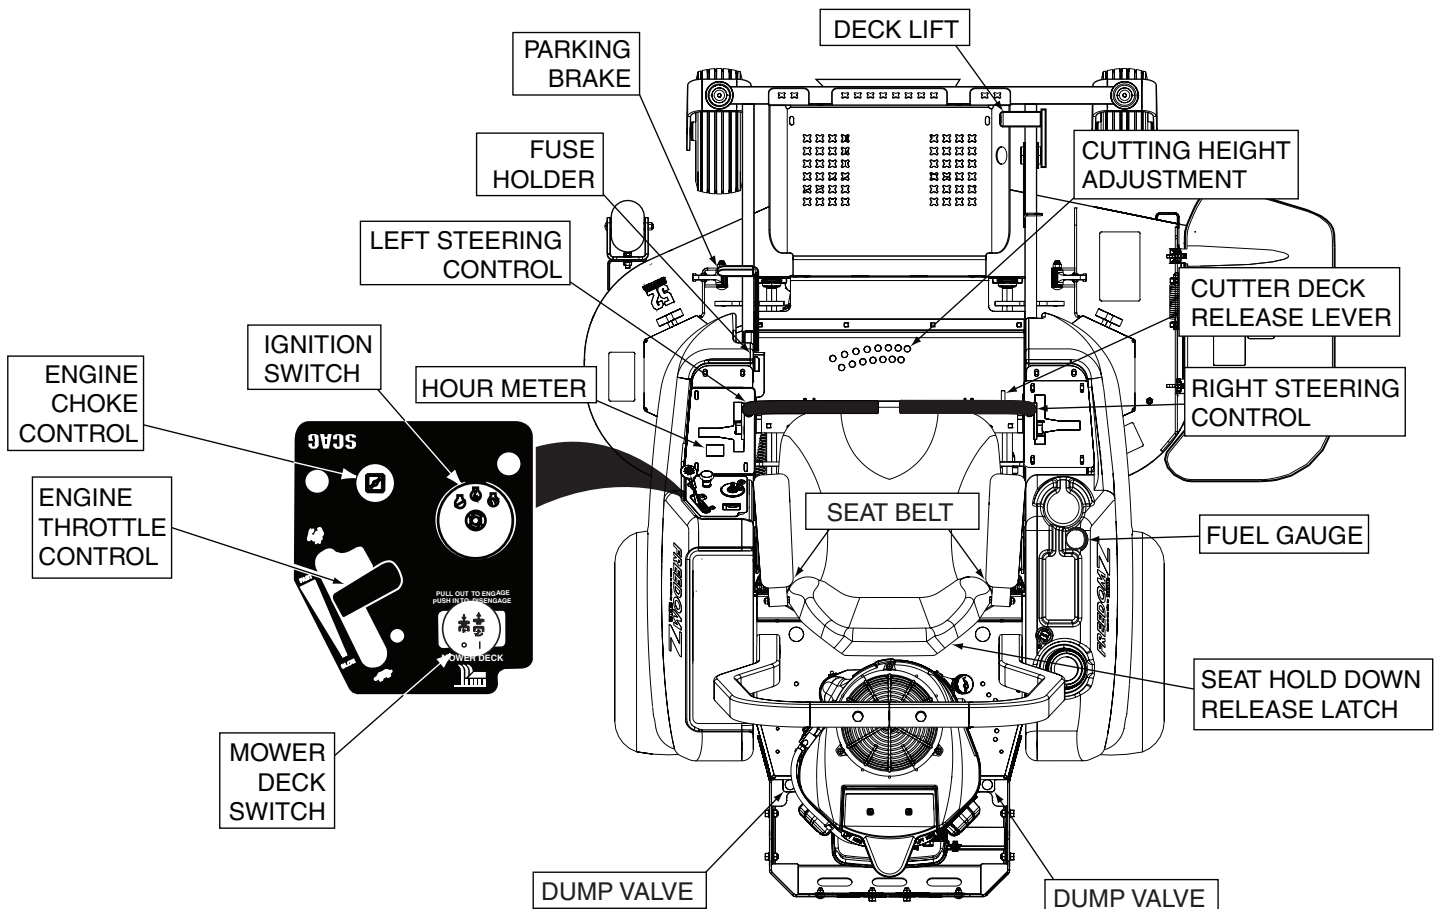

Figure 4-1. Controls and Instruments
- 1. Ignition Switch (Figure 4-1).** The ignition switch is used to start the engine and has three positions; OFF, ON, and START.
- 2. Mower Deck Switch (Figure 4-1).** Used to engage and disengage the mower drive system. Pulling up on the switch will engage the deck drive. Pushing down on the switch will disengage the deck drive.
- 3. Engine Choke Control (Figure 4-1).** Used to start a cold engine.
- 4. Engine Throttle Control (Figure 4-1).** Used to control the engine speed. Pushing the lever forward increases engine speed. Pulling the lever back decreases engine speed. Full back position is the IDLE position. Full forward is the cutting position.
5. **Hourmeter (Figure 4-1).** Indicates the number of hours the engine has been operated. It operates whenever the ignition key switch is in the ON position. Has preset maintenance reminders for engine and hydraulic system oil changes. Will start flashing scheduled maintenance 2 hours before preset time and continue flashing until 2 hours after. Automatically resets.
6. **Fuse Holders (Figure 4-1).** Two 20-amp fuses protect the mower's electrical system. To replace fuses, pull fuse out of the socket and install a new fuse.
7. **Left Steering Control (Figure 4-1).** Used to control the mower's left wheel when traveling forward or reverse.
8. **Right Steering Control (Figure 4-1).** Used to control the mower's right wheel when traveling forward or reverse.
9. **Parking Brake Control (Figure 4-1).** Used to engage and disengage the parking brakes. Pull the lever back to engage the parking brakes. Push the lever forward to disengage the parking brakes.
11. **Deck Lift Foot Lever (Figure 4-1).** Used to raise and lower the cutter deck.
12. **Cutting Height Adjustment (Figure 4-1).** Used to set the cutter deck at the desired cutting height.
13. **Deck Release Lever (Figure 4-1).** Used to lock the cutter deck in the transport position. Push the foot pedal forward and pull back on the release lever to release the cutter deck for normal mowing.
14. **Seat Belt (Figure 4-1).** Used to secure the operator. Seat belt must be worn at all times during operation.
15. **Seat Hold Down Release Latch (Figure 4-1).** Located behind the seat. Used to secure the seat in the operator's position. Release the latch to gain access under the seat.
Do not travel forward over a curb. The mower will hang up on the curb. Raise the deck and travel backwards over the curb at a 45 degree angle. (See Figure 4-1 and Section 4-1 item 11 for cutter deck raising description.)